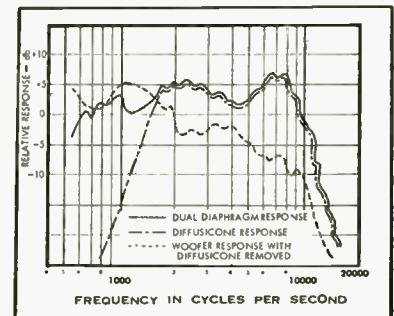

Fig. 4. Two-way Diffaxial response showing differential performance between woofer and high-frequency diaphragms.
of this completed speaker was obtained the Diffusicone section was removed from the speaker and the response curve was then run again. The results obtained at this demonstration are illustrated in Fig. 4. In this figure, the solid curve represents the performance of the speaker before the removal of the Diffusicone section, and the dotted curve represents the performance of main or lower-frequency diaphragm after the removal of the Diffusicone. These curves actually illustrate the fact that in this structure the addition of an auxiliary radiating diaphragm designed specifically for upper band radiation, and furthermore, designed specifically to work in conjunction with the woofer structure, *substantially adds a second band of frequencies to that of the woofer*. The success of this design lies in the mechanical coordination between the woofer diaphragm and the auxiliary diaphragm. On a large diaphragm not designed for this operation the addition of the auxiliary radiator may very well result in deleterious consequences.
This dual band performance is accomplished successfully only when the two radiators are designed to be compatible to each other both in their individual band coverage, and in the degree of overlapping areas of these individual bands, in addition to the mechanism itself which provides the crossover function. Referring again to Fig. 4 it will be observed that there is an area of overlapping performance of the low-frequency diaphragm and the auxiliary high-frequency Diffusicone section as indicated by the shaded area. Such overlapping is essential in multispeaker design to avoid areas of depressed response where neither of the transducers is operating, as indicated at (A) in Fig. 5.